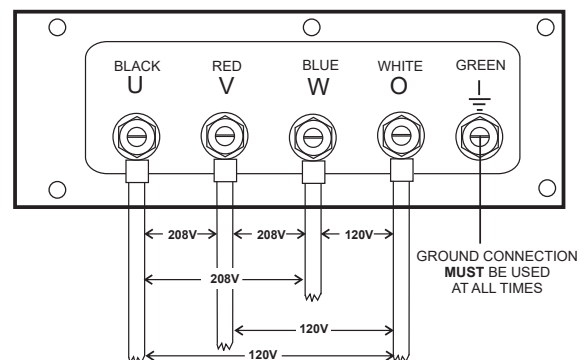

Figure 29. UVWO Terminal Lugs
2. Connect the load wires to the UVWO terminals as shown in Figure 29.